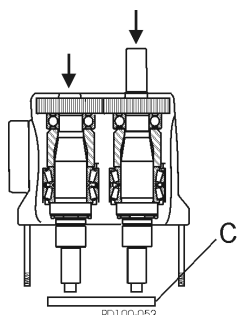

Figure 43 - Press Shafts from Gear Case
4. Place the gear case on an arbor press with the liquid end facing down. Protect the shaft ends with a wood or plastic block (Figure 43, item C) and press the shafts out of the gear case.